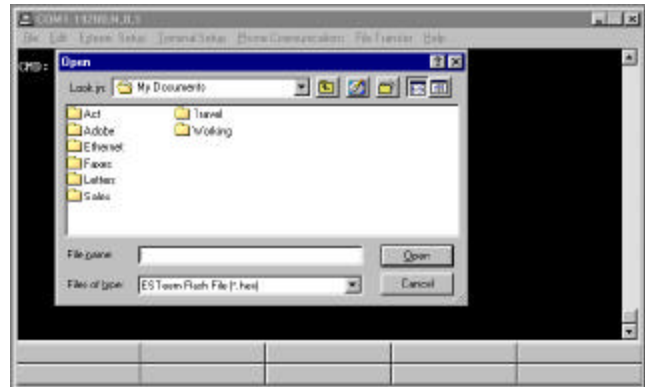

Figure 2: Updating Flash Memory
5. Select *ESTeem Setup*>*Update Flash Memory* from the menu and the Utility will read information about the connected modem and ask for the location of the flash file (Figure 2). Browse to the location of the flash update file on the computer and select Open.